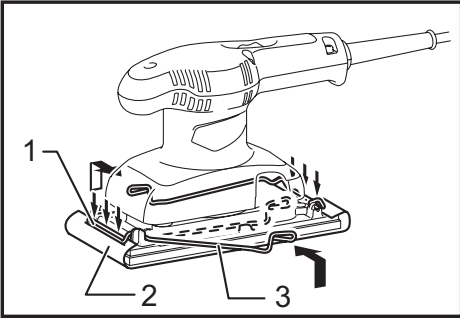

Fig.2
► Fig.2: 1. Clamping part 2. Abrasive paper 3. Lever